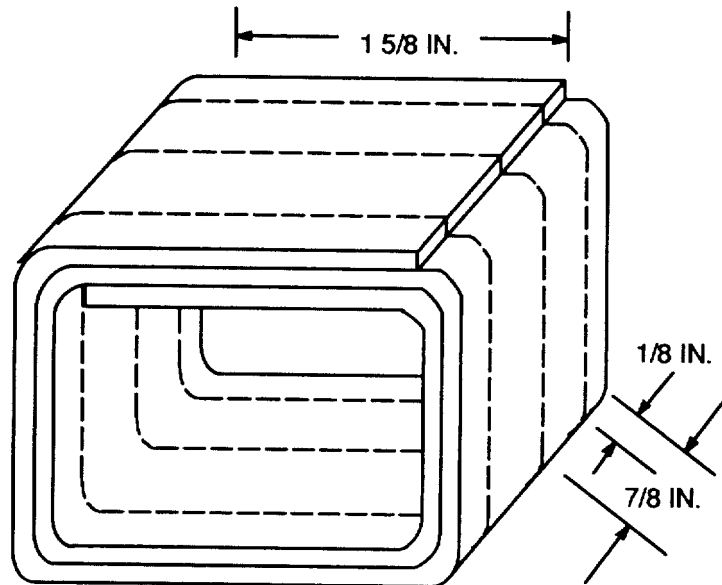

Figure 2-7. Sliding Keeper Repair.
- c. Cut a length of Type VII cotton webbing long enough to form two turns around the sling and allow for a 1 5/8-inch (4.1-cm) overlap (Figure 2-7).